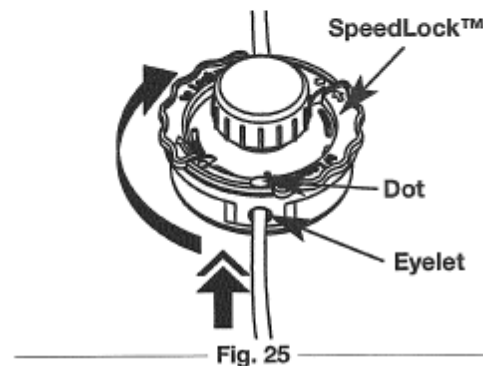

Fig. 25
5. While holding the outer spool in place, pull the SpeedLock™ away from the outer spool and twist the SpeedLock™ clockwise until the dot is inline with the eyelet or until it stops (Fig. 25).